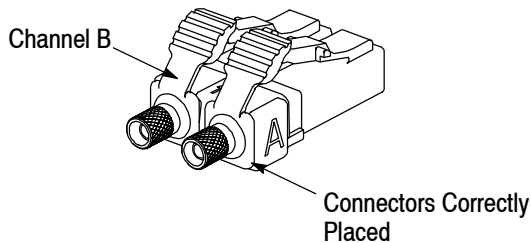

Figure 15
2. Center the rear body of the connector subassembly between the cavity of the duplex clip as shown in Figure 15, Detail A, and using a biasing force, insert the connector into the cavity. Correct placement is denoted by an audible “click.”
For correct installation, the rib on the duplex clip must align with the recess in the rear body of the connector subassembly. In addition, the arrow on the duplex clip that should point toward the front of the connector subassembly. Refer to Figure 15, Detail A.